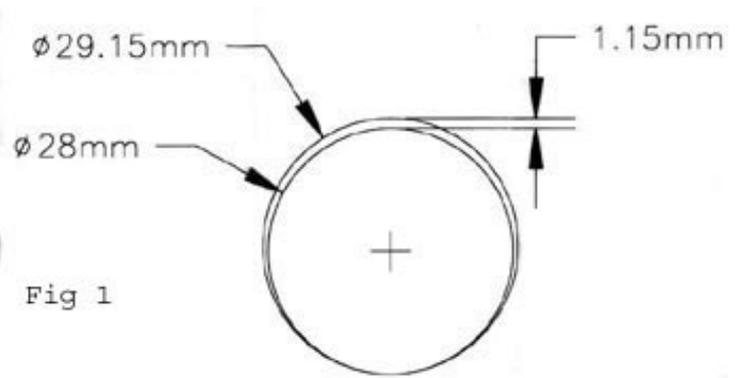

Fig 1
1). Carbs should be bored offset to the venturi centerline See Fig 1. A proper setup would have the boring bar JUST touch the area where the needle jet resides so as to remove as little material as possible.